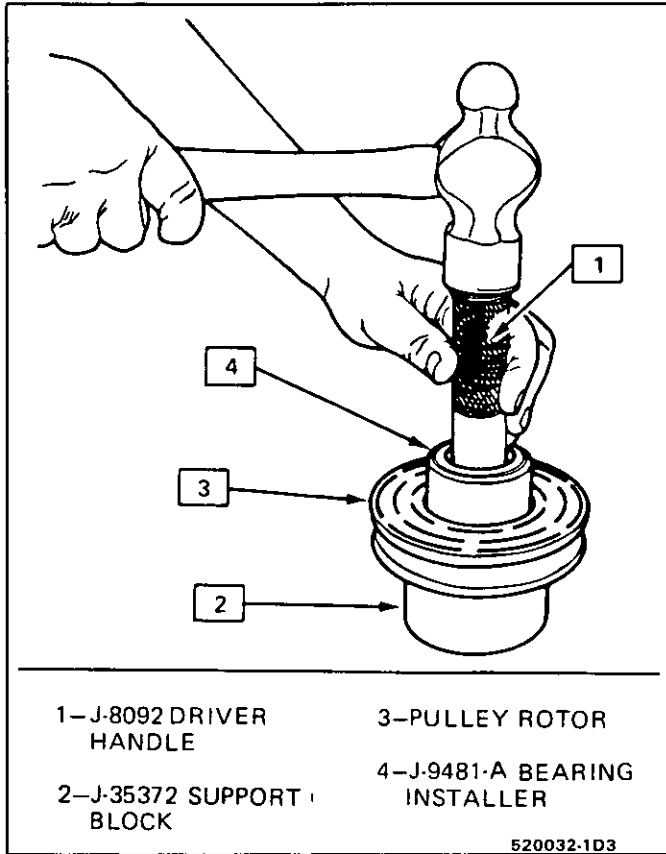

Fig. 14 Installing Pulley Rotor Bearing
1. Place the pulley rotor on the J-35372 support block to fully support the rotor hub during bearing installation (Fig. 14).
2. Align the new bearing squarely with the hub bore and using puller and bearing installer J-9481-A with universal handle J-29886, drive the bearing fully into the hub (Fig. 14). The installer will apply force to the outer race of the bearing if used as shown.